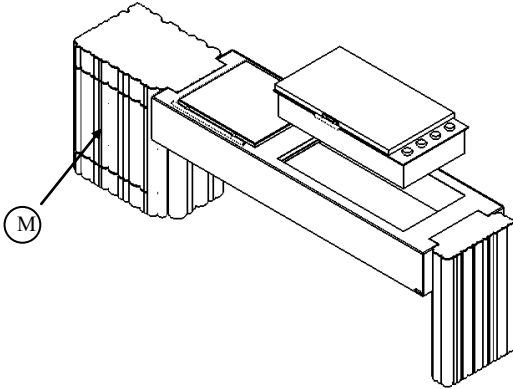

Figure 10—Gas grill with oven installation complete
Regarding the gas supply, the left side door (M) can be used to insert the gas canister if the gas to be used is from canister (figure 10). In case the gas to be used is natural gas or the connection is made behind the equipment it may be performed through the hole (N).